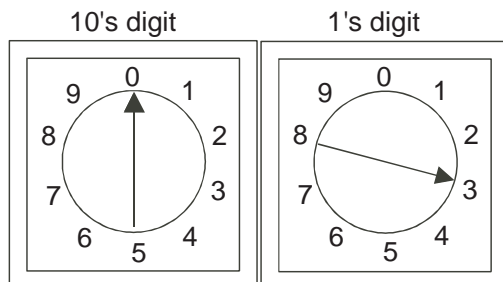

Figure 9. Rotary Address Switches
B. Set BACLink default address. The default IP address is 192.168.168.xxx. The xxx indicates the final portion of the IP address which is set using the rotary switches on the BACLink portal. The final portion of the address identifies the BACLink portal with a unique address on the BACnet network. For example, using the default address, Figure 9 shows the BACLink portal address configured as 192.168.168.3. Set the user-assigned final portion of the portal network address using the rotary switches.